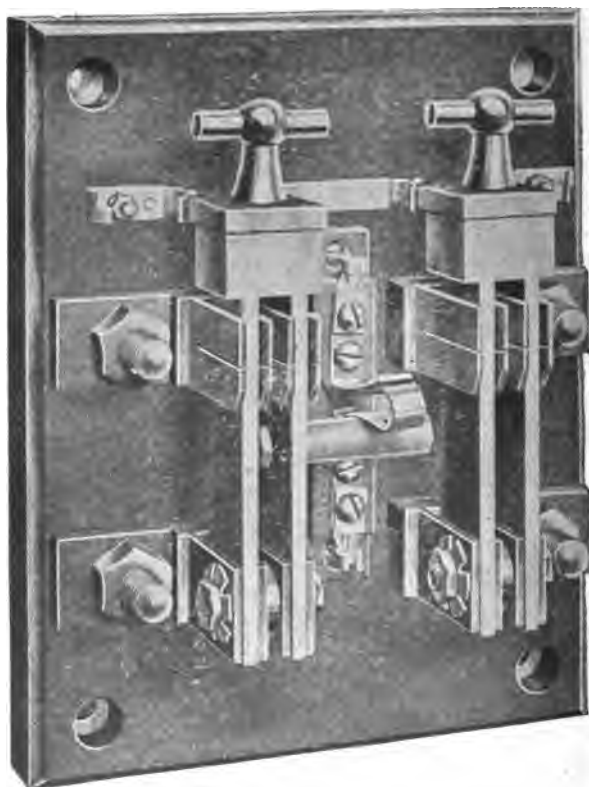

Fig. 508. Main Motor Cut-out Switches.
52. MAIN MOTOR CUT-OUT SWITCHES (Fig. 508) are for the purpose of cutting out the individual motors in case of any ground or defect in a motor which